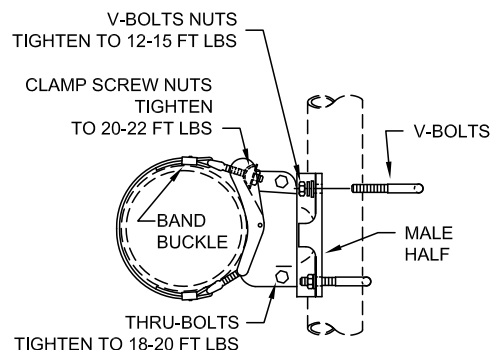

Figure 7
8. Position Tube into Male Half of Clamp Kit. (Figure 7). Insert V-bolts as shown and attach with lock washers and nuts.
9. Aim and position signal to the desired height and direction and tighten nuts on two (2) V-bolts to 12-15 ft. lbs. of torque. **DO NOT OVERTIGHTEN.**
10. Plumb or level signal and tighten two (2) Thru-Bolts on Female Half of Clamp Kit to 18-20 ft.lbs. of torque. **DO NOT OVERTIGHTEN.**
11. Tighten Clamp Screw Nuts (2) to 20-22 ft. lbs., using an 11/16" box end wrench or ratchet. (Figure 7). NOTE: Tightening the clamp screw nuts firmly with a 7" wrench will produce approximately 20 ft. lbs. of torque. This is all that is necessary to hold the Astro-Brac Clamp Kit in place. **DO NOT OVERTIGHTEN.**